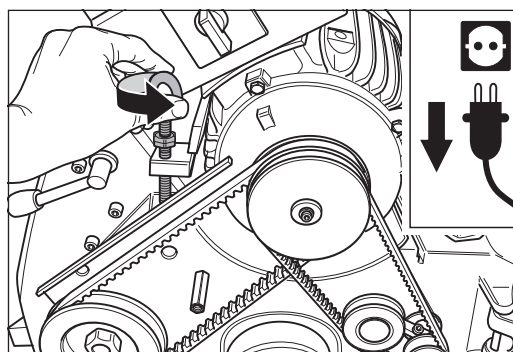

Fig. 50 Release the tension of the V-belts by turning the eye bolt at the motor counterclockwise.
- 6 Release the tension of the V-belts by turning the eye bolt at the motor counterclockwise (fig. 50).